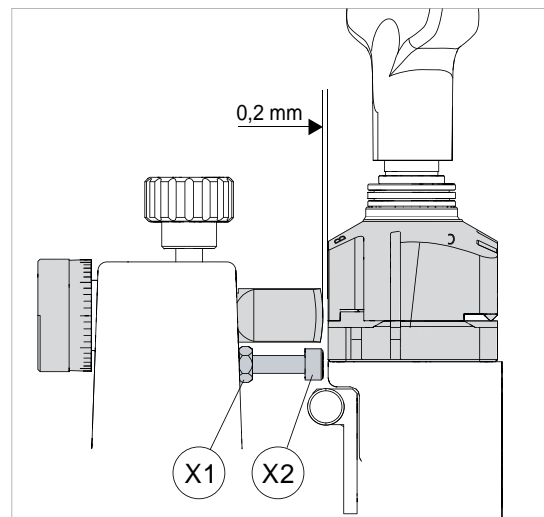

Fig. 32
- 1) Raise the carriage and carry the clamps to the end of its run towards tracer point and cutting tool (Fig. 32)